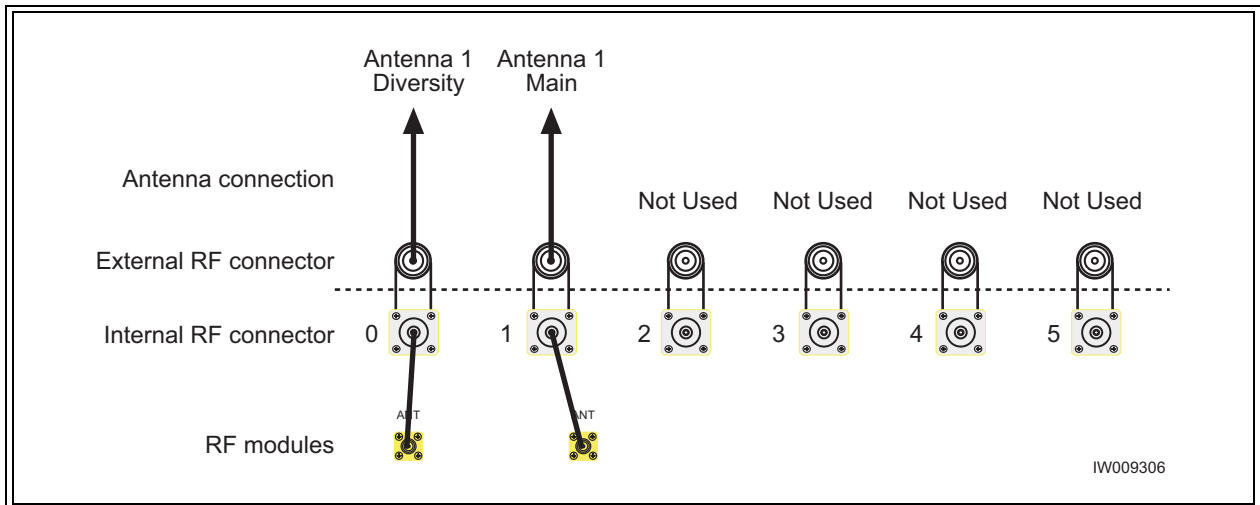

Figure 2-18 Antenna Cabling for O5 Configuration
- Connect your antennas as shown in Figure 2-18.